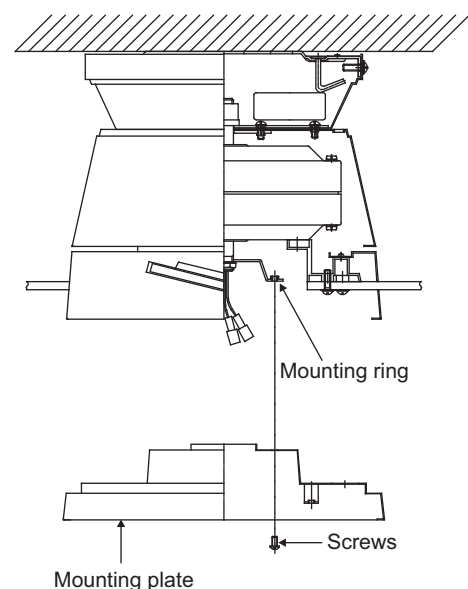

Figure 12
Step 2. Place the key holes on the light kit over the 2 screws previously loosened from the mounting ring, turn mounting plate until it locks in place at the narrow section of the key holes. Secure by tightening the 2 screws previously loosened and the one previously removed. (Fig. 12)